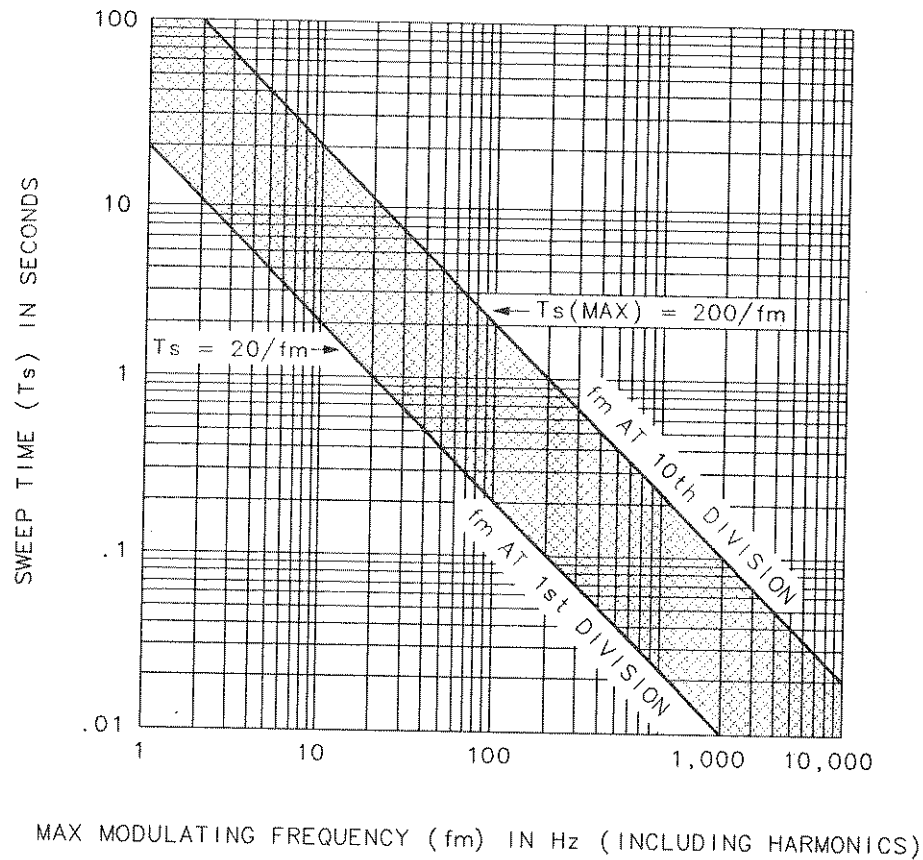

Figure 6-28. Maximum Modulation Frequency versus Sweep Time
7. See Figure 6-28, which shows maximum modulation frequency (fm) in Hz versus sweep time (Ts) in seconds. Set the sweep time less than Ts(max) for that maximum modulation frequency (fm) including the harmonics of the signal. The upper curve relates the sweep time to the maximum modulation frequency that can be observed (that is, the modulation frequency represented by the right edge of the graticule). The lower curve represents the modulation frequency one division from the left side of the graticule.